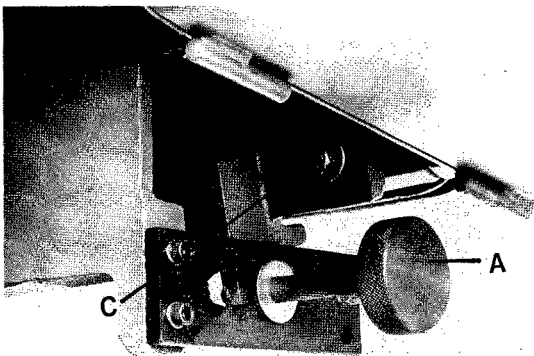
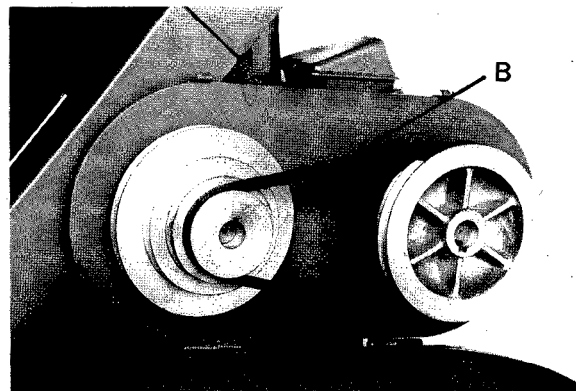

FIG.7
FIG.8
1. Release tension on the belt by turning the tension lock knob (A) Fig.7, counterclockwise and letting the motor swing forward.
2. Shift the belt (B) Fig.8, to the desired grooves on the pulleys and adjust belt tension by pulling the motor plate (C) Fig.7 back until correct belt tension is obtained and tighten tension lock knob (A) Fig.7